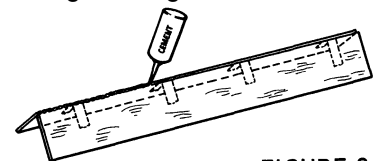

FIGURE 2
**Step 2.** Next, pick up the sheets, and using the tape as a hinge, open up the butt joint, per Fig. 2.